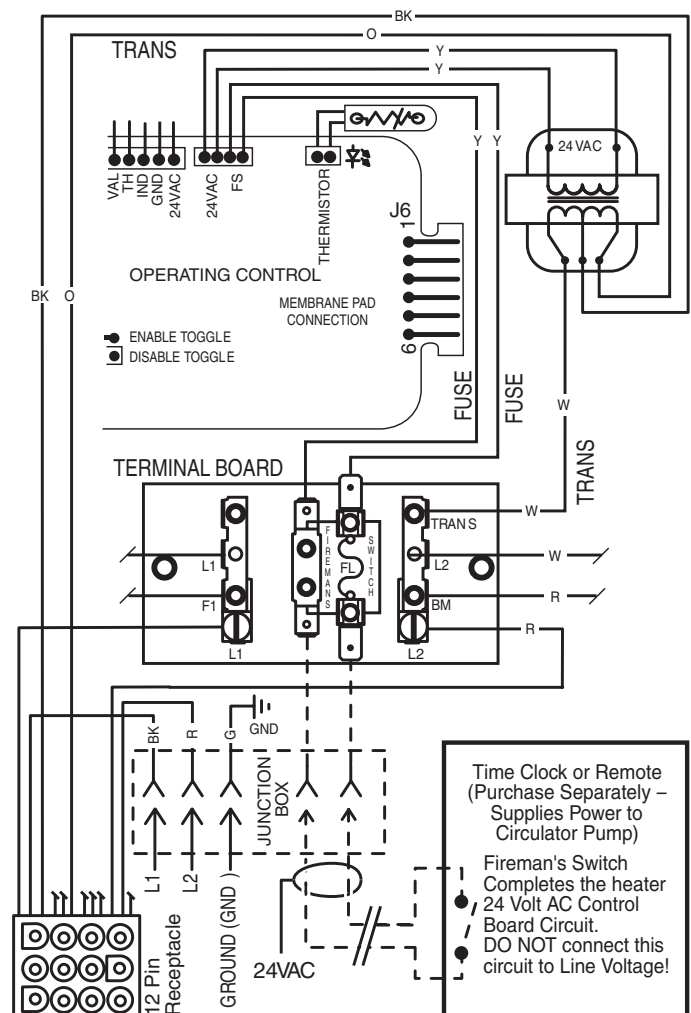

Figure 22.
- Connect wires between the Fireman's Switch terminals on the heater and the relay. Connect wires from the controller or timer to the Fireman's Switch. Controller, timer or relay should be sized to handle 24VAC at 0.5 Amp (because it will be completing the 24VAC control board circuit on the heater as shown in Figure 22). DO NOT apply line voltage to the Fireman's Switch terminals. Use 18 gauge wire with a minimum 3/64" (1.2mm) thick insulation rated for a temperature rise of at least 105°C.